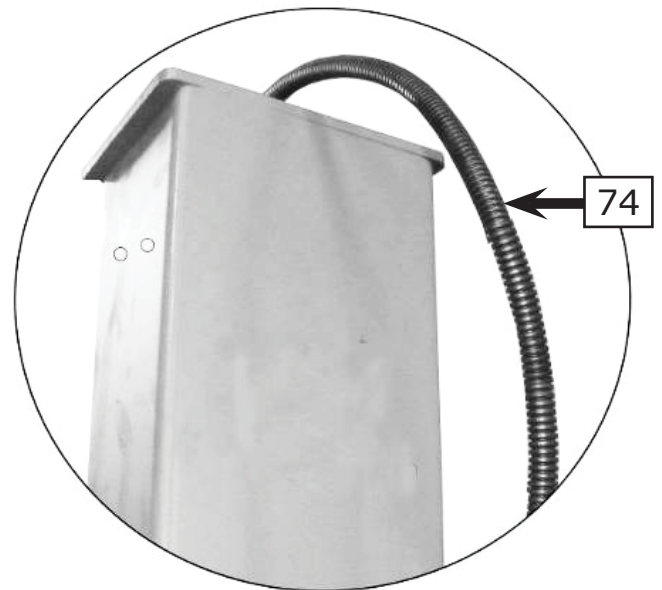

Fig. 33
4. Insert the limit switch cable through the plastic protective sleeve (See Fig. 33).